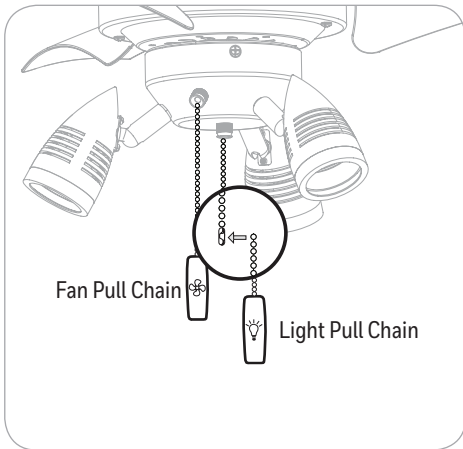

Figure 5.7
7. Snap the end of the pull chain extensions onto the ends of the appropriate pull chains. The pull chain extending from the center of the light kit controls the light and the pull chain extending from the side of the light kit controls the fan (Figure 5.7).